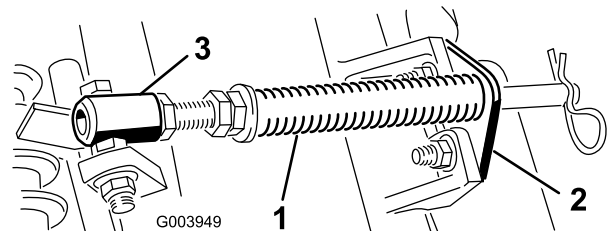

Figure 5
- A. Remove the 2 carriage bolts and nuts securing the rod bracket to the cutting-unit tabs (Figure 5).
- B. Remove the flange nut securing the spring-tube bolt to the carrier-frame tab (Figure 5). Remove the assembly.